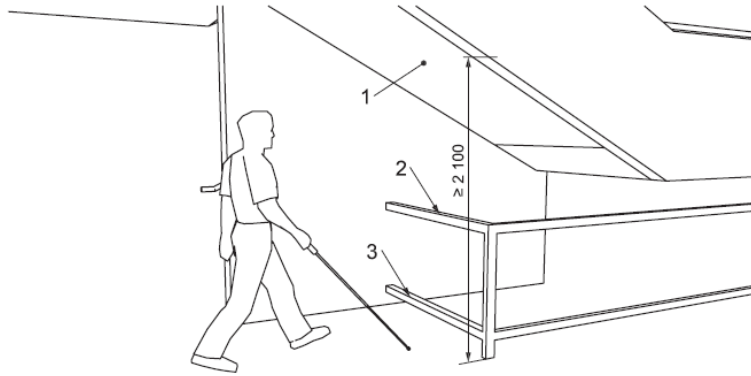

Figure 23: Clear height under stairs
- Where less, provide guard or detectable element to prevent impact (see Figure 23)